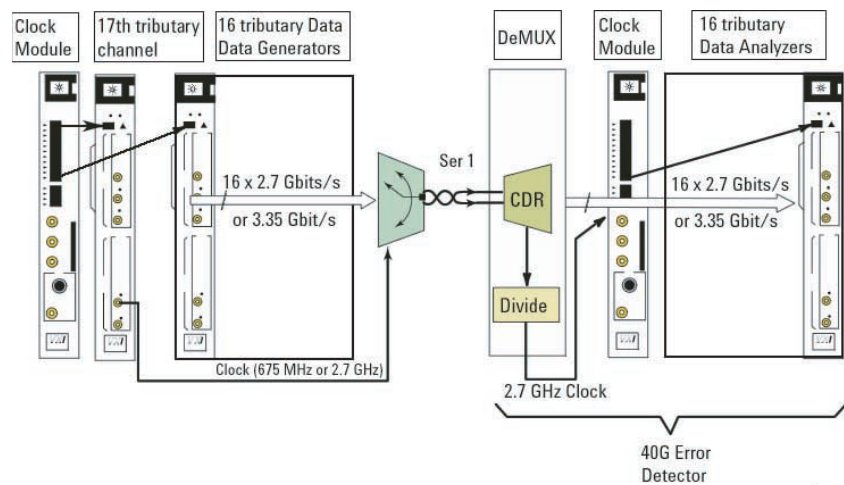

Figure 14: MUX test setup without internal MUX
2. Internal Clock: The most economical setup (Fig. 14) It just provides a 675 MHz or 2.7GHz clock signal by means of a 17th generator channel. The analyzer consists of a full 40G Error Detector.